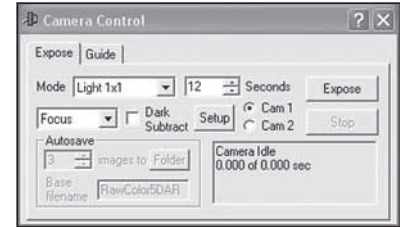
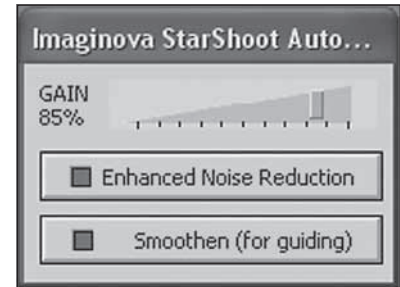

Figure 11. Cam 1 / Cam 2 camera control window in MaxIm DLE
Figure 12. MaxIm DLE AutoGuider window allows you to adjust the camera gain and optionally enable noise reduction to smooth out the background noise.
1. Plug the SSAG and the SSDSCI/SSDSMI (II) into the USB ports on your computer.
2. Load MaxIm DL Essentials. The **Camera Control** window should have an option to select **Cam 1** or **Cam 2** (Figure 11). You will also notice the **Imaginova StarShoot AutoGuider** window appear in the center of the screen (Figure 12). This window allows you to adjust the camera gain and optionally enable noise reduction.